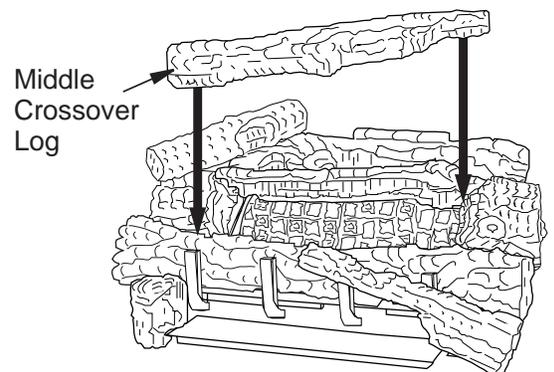

Figure 35 - Installing Middle Crossover Log
11. Rest the middle crossover log (18" D-070, 24" & 30" D-044) onto the right middle log and the left front log (see **Figure 35**). Make sure to match the projection on the bottom of the crossover log with the recess area in the right middle log and the left front log.